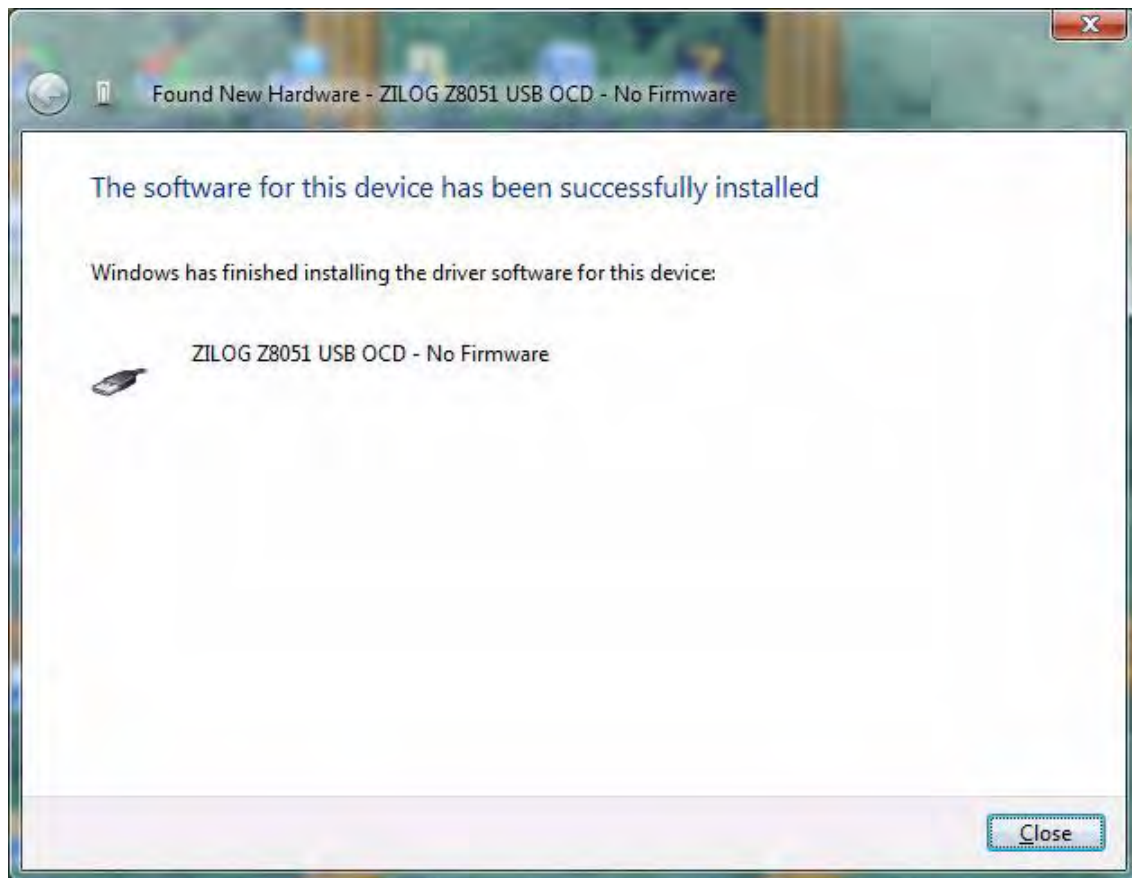

Figure 93. Successfully Installed Dialog, Windows Vista
7. When the installation is complete, the screen shown in Figure 93 will appear. Click **Close** to exit the OCD driver installation.